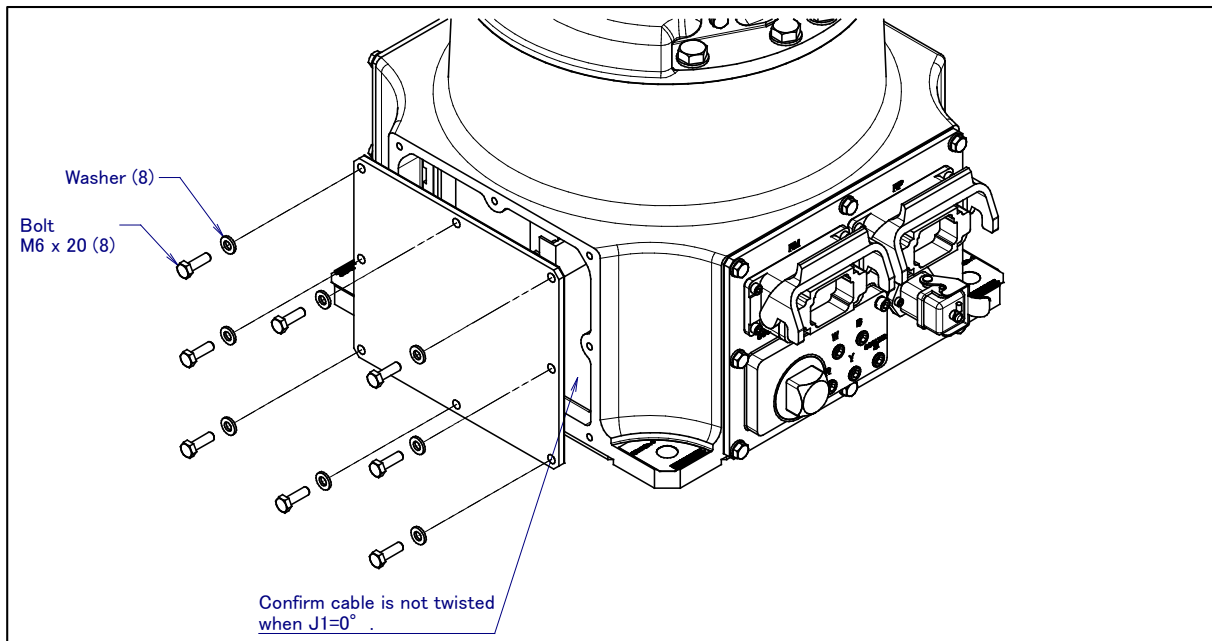

Fig. 8.1 (a) Check the cables statement (J1-axis)
- 3 When the motion range is mechanically 360 degrees or more, if J1 axis to which the cables are connected is turned one turn beyond the correct mastering position when mastering occurs, the cables in the mechanical unit may be damaged. If the correct rotation position is not clear because the axis is moved too much during mastering, remove the cover, check the states of the internal cables, and perform mastering in the correct position. For the checking procedure, see Fig. 8.1.